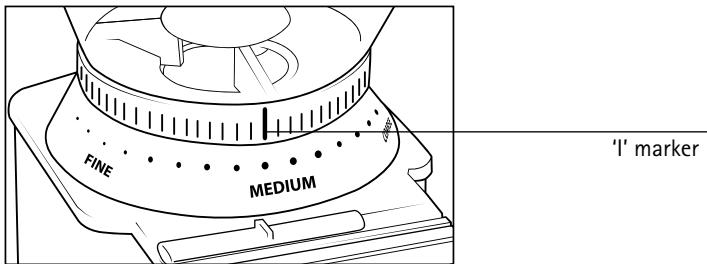

Figure 2
- Set the grind selector to the desired setting, then twist the bean hopper in a clockwise or anticlockwise direction. The 'I' mark on the hopper base should be aligned with the desired grind setting (see figure 2).